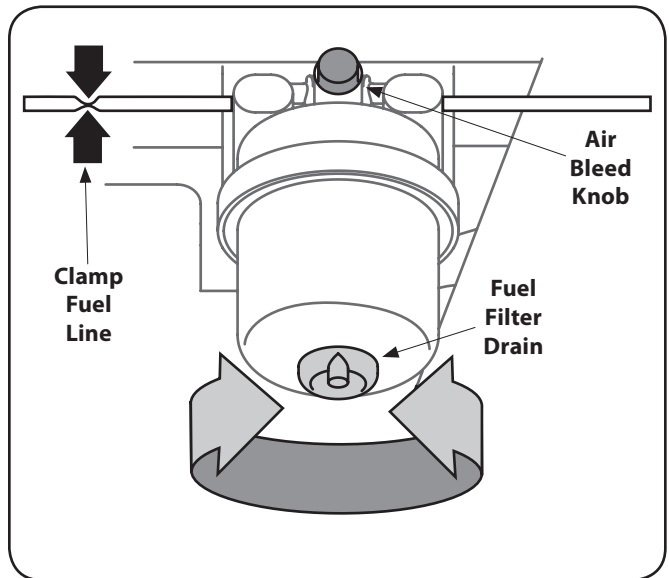

Figure 5-4
3. Turn the filter drain counterclockwise to open. Allow the water at the bottom of the filter to drain until only pure diesel fuel drains from the valve. See Figure 5-4.
5. Slowly turn the air bleed knob counterclockwise until fuel begins to seep out around the bleed knob. Turn air bleed knob clockwise to close. Refer to Figure 5-4.
2. Clamp the fuel line just to the rear of the fuel filter. See Figure 5-4.